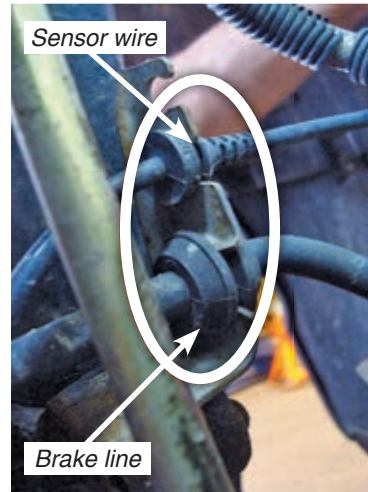

fig. 10
- Clip the sensor wires and brake line onto the supporting bracket (fig. 10).